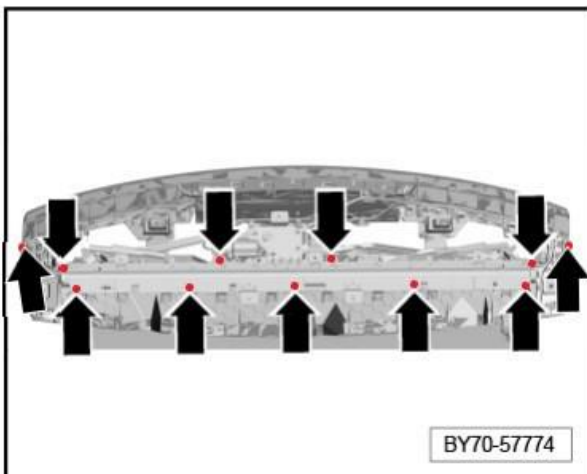

Figure 11
- Referring to Figure 11 - Remove the fixings -arrowed- (3.5 Nm).